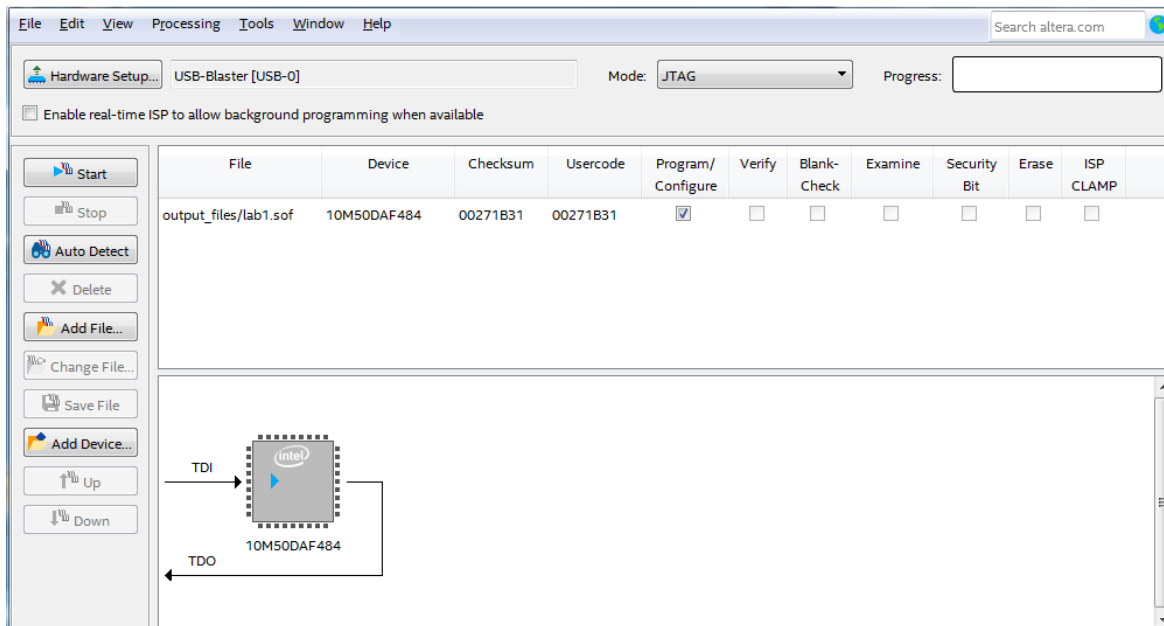

Figure 8. Device Programmer Configuration
- Click the **Add File...** button and select the output file from the output\_files folder in your project folder. The correct output file will have the .sof extension (i.e. lab1.sof). Your screen should look like Figure 8.